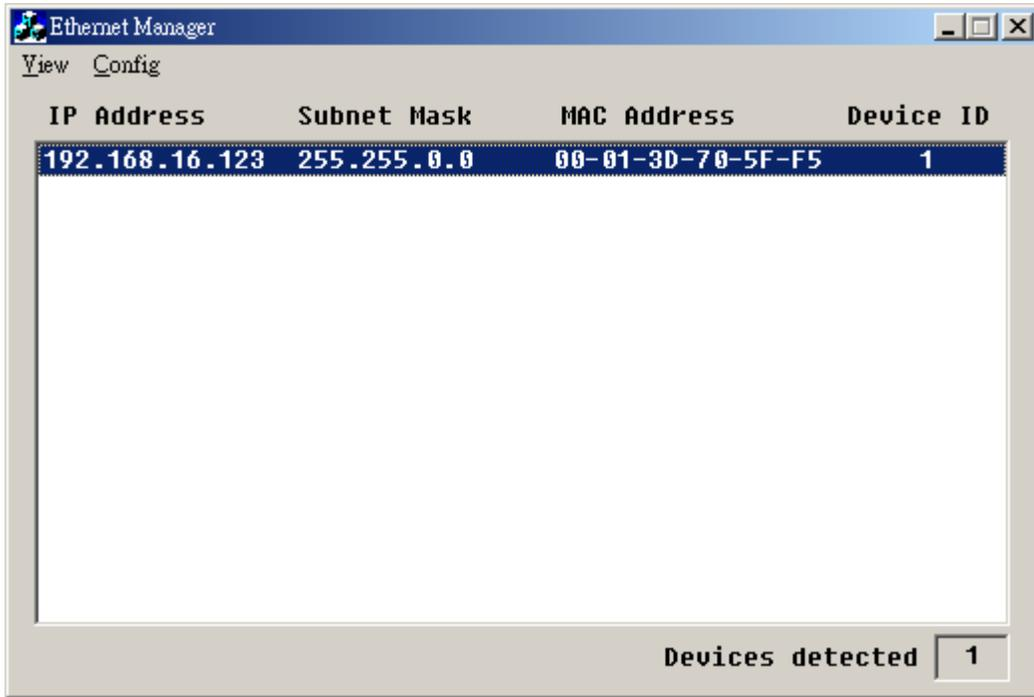

FIG D2-1
2. Run the ETM.EXE which bellows the path of the LAN on the CDRom drive, it will show as fig D2-1 if not , please press F5 to search again, or check the first step was succeed or not.